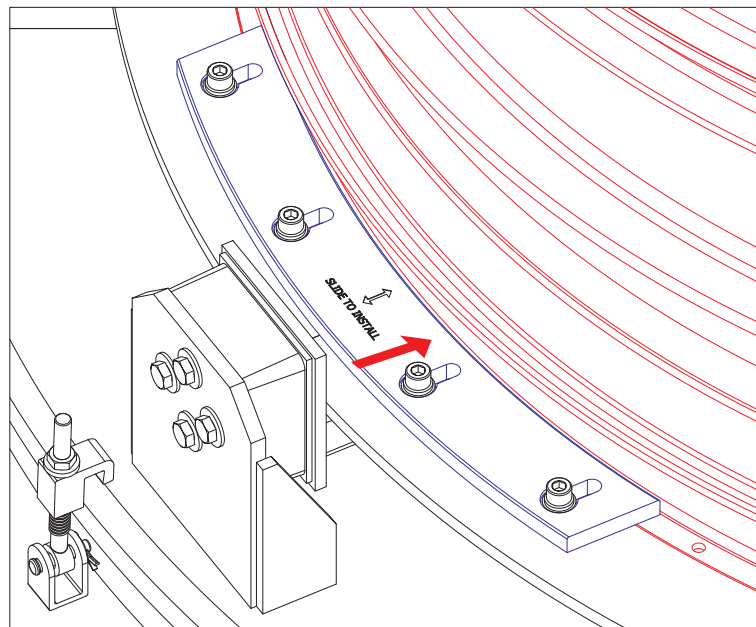

Figure 5.3-4 Fan & Booster Positioning
2. Slide clamps back in to position and tighten down four (4) socket head screws for six (6) clamps to secure fan & booster to container base (Figure 5.3-4).
- 4) Slide clamps back in to position and tighten down four (4) socket head screws for six (6) clamps to secure on to fan & booster container base (Figure 5.3-4).